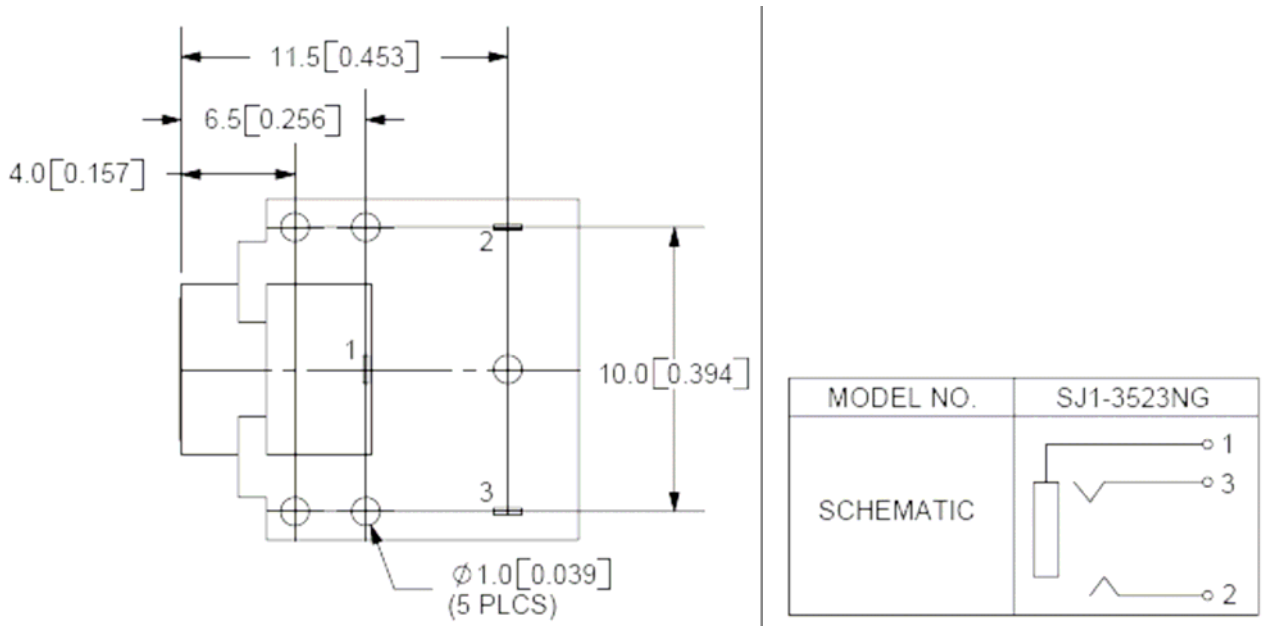

Figure 8.7. A bottom-view mechanical drawing of the stereo jack (connect pin 1 to ground and pin 3 to the DAC output).
- If you organized the system different than Figure 8.7 and 8.8, then draw its data flow and call graphs